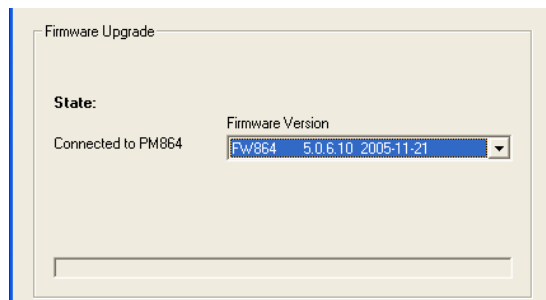

Figure 47. A Firmware version displayed in the text field.
5. Click **Connect** and then press the **Init** push-button on the Controller until the **Run LED** starts to blink. Wait about a minute until a message appears. If connection was successful, a confirmation text will occur in the Firmware Version text field (Figure 47).